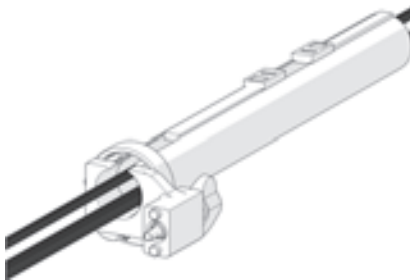

Figure 4-132 Zip opposite end
3. After the cable is placed in the entire length of tube, bring the zipper from the opposite end to meet at any point in the middle (see Figure 4-132 on page 191).